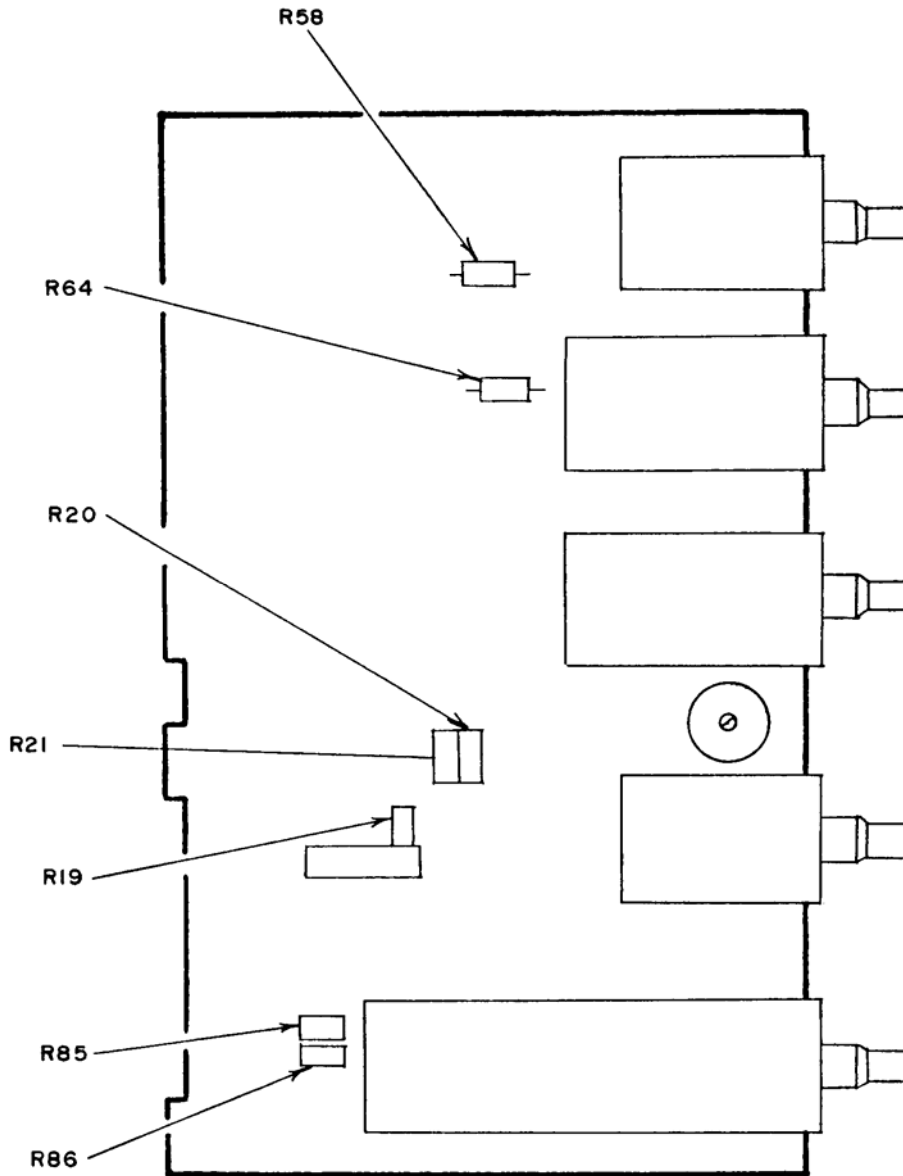

Figure 2. Gull Airborne Instruments, Model GTF-4 – adjustment locations
b. Adjustments. Adjust R85 (fig. 2) on 200 pF range and R86 on 1000 pF range for a zero indication then repeat (2) through (4) above.
- (1) Adjust R58 (fig. 2) for a reading of **.1000 MΩ** on digital indication.
- (2) Adjust R64 (fig. 2) for a reading of **.9500 MΩ**.